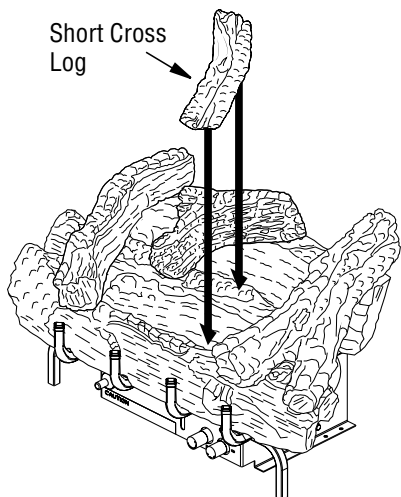

Figure 27 - Installing Short Cross Log for 30" Models Only
7. For 30" models: place short cross log as shown in **Figure 27.**